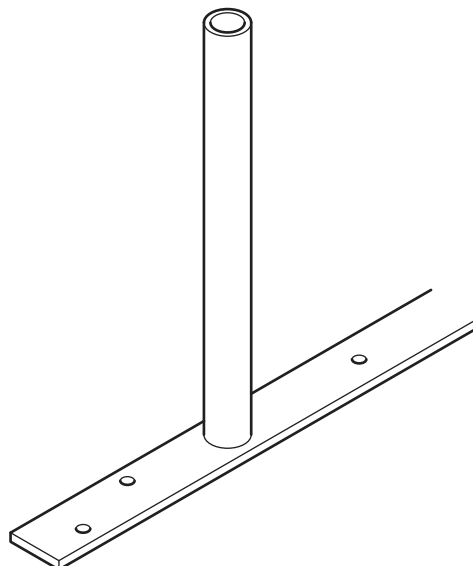

Fig. 13.4
- (d) Fig. 13.4 shows one tube that will be joined to the bracket by means of brazing.
- (i) Add to Fig. 13.4 to show how the position of the tube could be checked to make sure it is vertical. Name the tools or equipment used. [3]